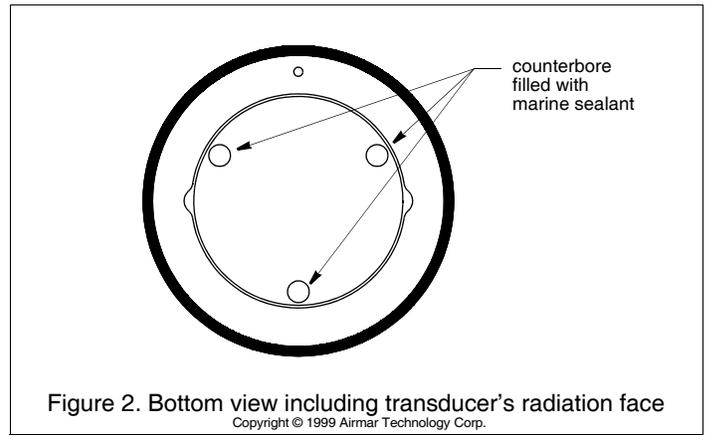

Figure 2. Bottom view including transducer's radiation face
10. Fill the screw heads and counterbores with marine sealant until they are flush with the transducer's radiating face (Figure 2). Remove any excess sealant to ensure smooth water flow over the transducer.